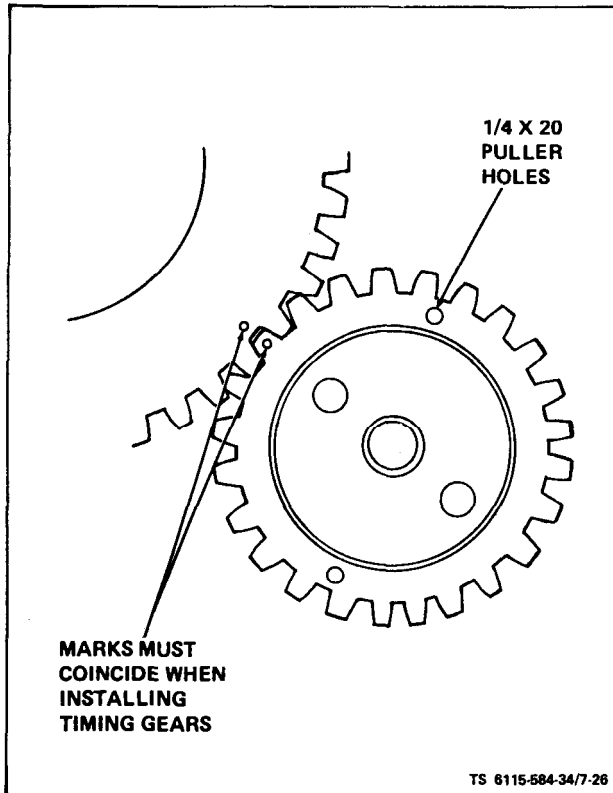
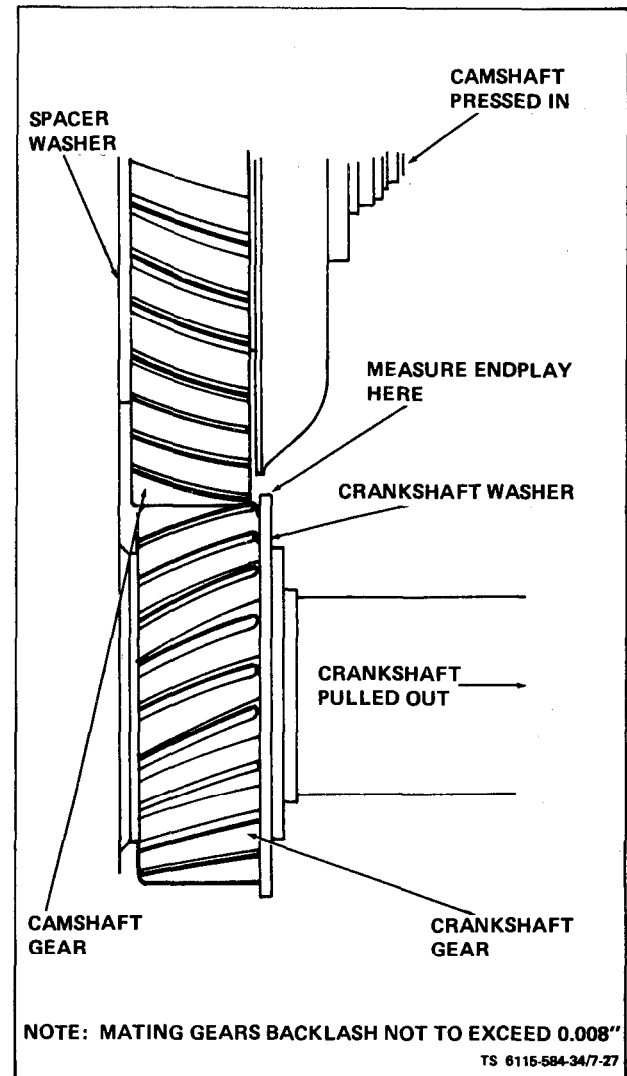

Figure 7-26. Crankshaft and Camshaft Gear Timing Marks
Figure 7-27. Timing Gear Backlash
(6) Install camshaft assembly (15) in engine making sure tappets (27) are in place on push rods. Align timing marks on camshaft gear and crankshaft gear (see figure 7-26). Check gear lash (see figure 7-27).
(7) Install oil base per paragraph 7-10.